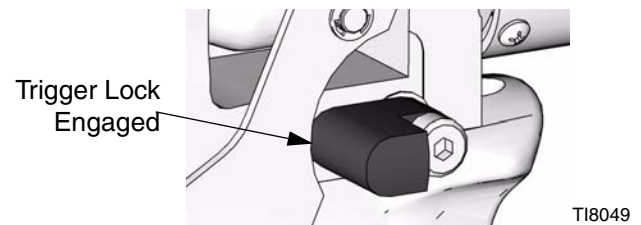

FIG. 6: Trigger Lock Engaged
1. Fully release gun trigger and engage gun trigger lock. See FIG. 6.
4. Fully release gun trigger and engage gun trigger lock. See FIG. 6.
To engage trigger lock, release trigger and rotate lock downward. See FIG. 6.